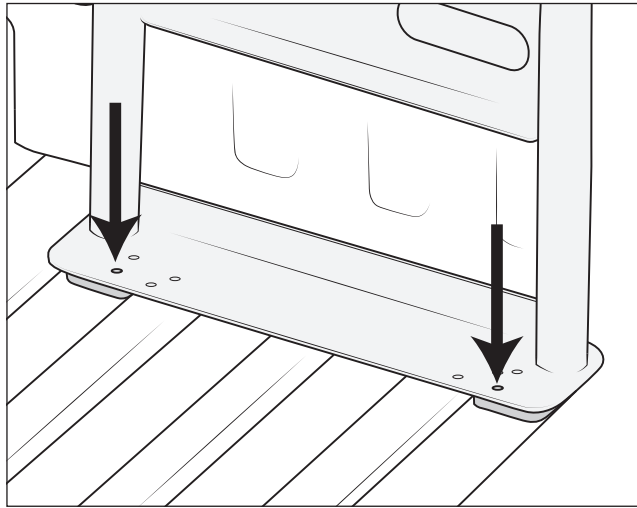

Figure 5
4. Mark two hole locations on the bed floor (fig. 5) and three hole locations on the main mounting plate (fig. 6).